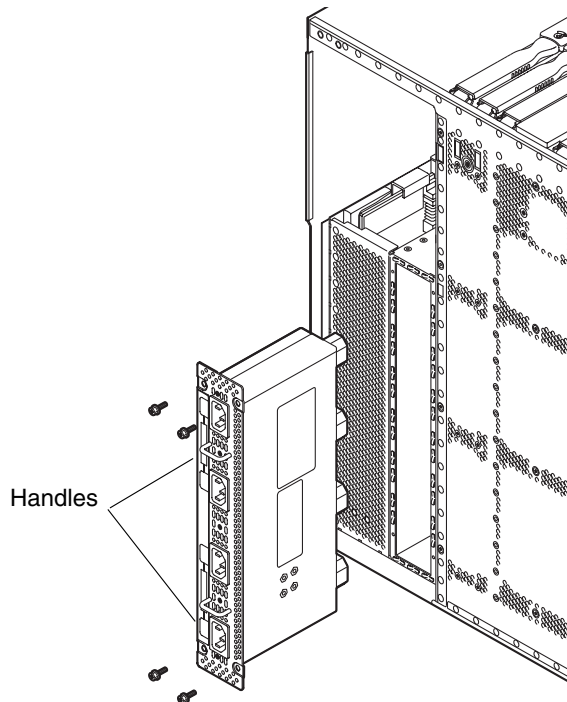

FIGURE 8-4 Removing the Power Inlet Box
The power inlet box is located at the left rear of the system just to the right of the metal perforations (FIGURE 8-4).
4. Remove the four Phillips no. 2 screws retaining the inlet box (FIGURE 8-4).
1. Insert the power inlet box into the rear of the system and secure the inlet box by using the four Phillips no. 2 screws (FIGURE 8-4).